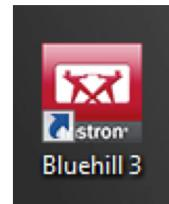

Fig. 3.3.3. Image of Bluehill 3 software icon.
- iv. Run **Instron Bluehill 3 software** from the computer desktop. This activates the frame and makes the control panel available for use (see Figs. 3.3.3-4).